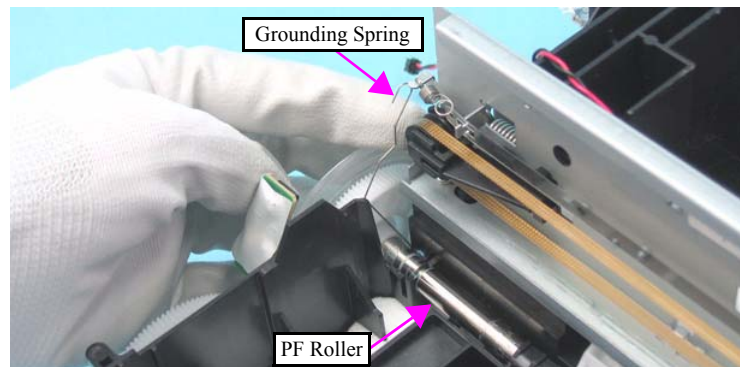
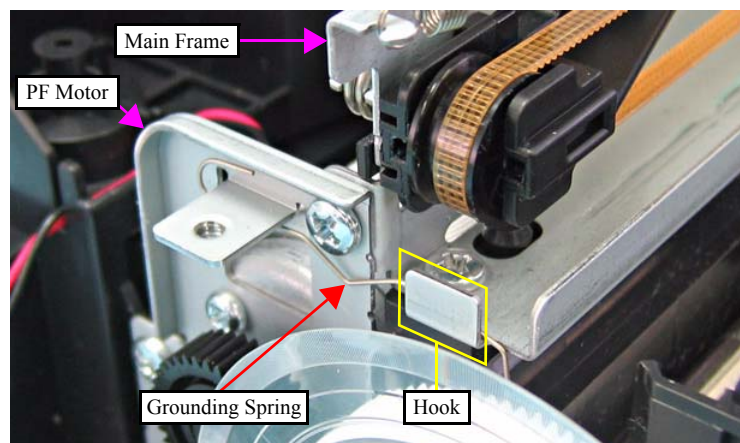

Figure 4-61. Installing the Grounding Spring (1)
Figure 4-62. Installing the Grounding Spring (2)
- Be sure to install the Grounding Spring referring to Figure 4-61 and Figure 4-62.